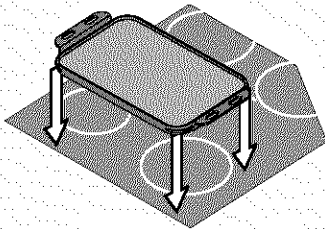
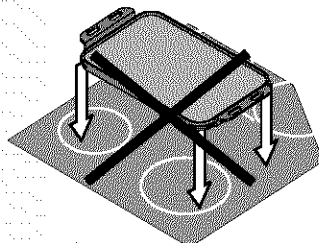

figure 1
figure 2
The cooktop has single radiant surface elements at 3 locations; the right, center and left rear (Figure 1) element positions.
2. Push in and turn the surface control knob in either direction to the desired setting (Figure 2). Turn the knob to adjust the setting if desired. Start most cooking operations on a higher setting and then turn to a lower setting to finish cooking. Each surface element provides a constant amount of heat at each setting. A glowing red surface heating area extending beyond the bottom edge of the cookware indicates the cookware is **too small** for the surface heating area.
The cooktop is equipped with dual radiant surface element located at the right & left front (See Figure 1 or 3) positions. Symbols on the knob are used to indicate which coil of the dual radiant element will heat. The ● symbol indicates that only the inner coil will heat (Figure 1). The ⊙ symbol indicates that both inner and outer coils will heat (Figure 3). You may switch from either coil setting at any time during cooking.
2. Push in and turn the control knob counterclockwise (See Figure 2) for smaller cookware or clockwise (See Figure 4) for larger cookware.
The symbol  indicates that only the single portion of the Bridge element will heat (see Figures 1 and 2). The symbol  indicates that both the single and Bridge portions of the element will heat together (see Figures 3 and 4). You may switch from either of these settings at any time during cooking with the Bridge element.
2. Push in and turn the control knob counterclockwise (see Figure 2) to heat the portion of the Bridge element for normal shaped cookware or clockwise (see Figure 4) for larger or rectangular shaped cookware.
The griddle is intended for direct food cooking. Do not use pans or other cookware on the griddle. Doing so could damage griddle finish. Set the griddle over the element (figure 1) taking care to not put the legs of the griddle directly on the heating area (figure 2).